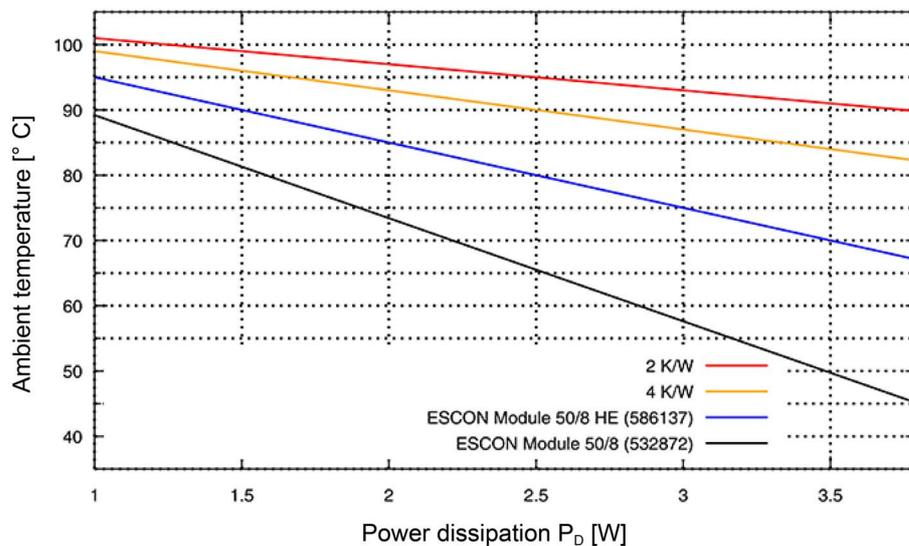

Figure 2-2 Derating Ambient Temperature / required Heat Sink
Extended range ^{*1)}	6'000...10'000 m MSL Derating: Ambient temperature (→ Figure 2-2) less 11 °C
3) →Figure 2-2